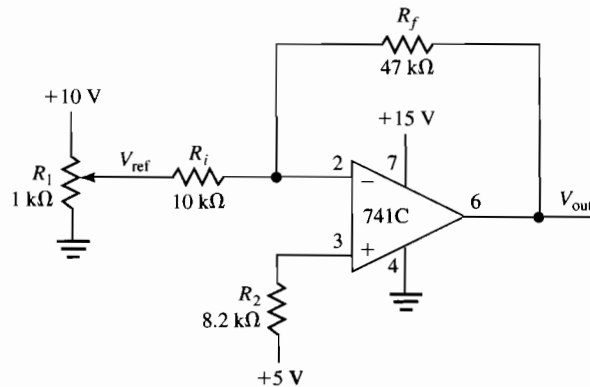

Figure C-20-1
14. An op-amp can be operated from a single positive power supply, as shown in Figure C-20-1. (The noninverting input has a dc level applied to it to change the reference.) Assume V_{ref} is set for a +6.0 V level. Use the superposition theorem and the ideal op-amp model to answer the following questions.